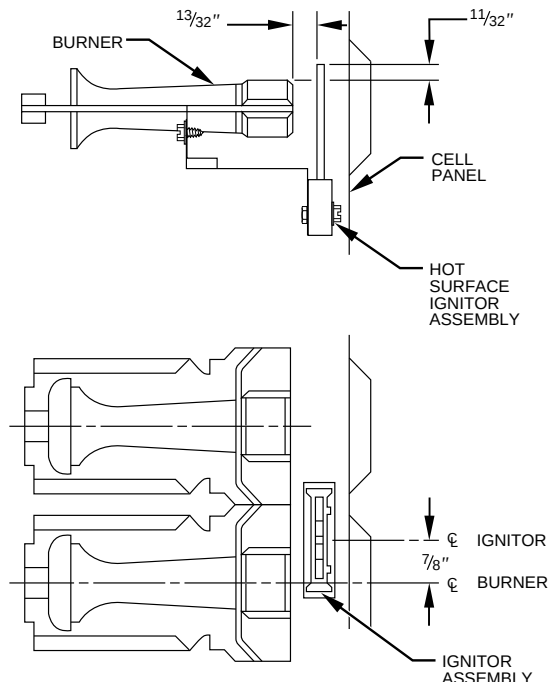

Fig. 9—Position of Ignitor to Burner
**NOTE:** Be very careful when removing burner assembly to avoid breaking ignitor. See Fig. 9 for correct ignitor location.